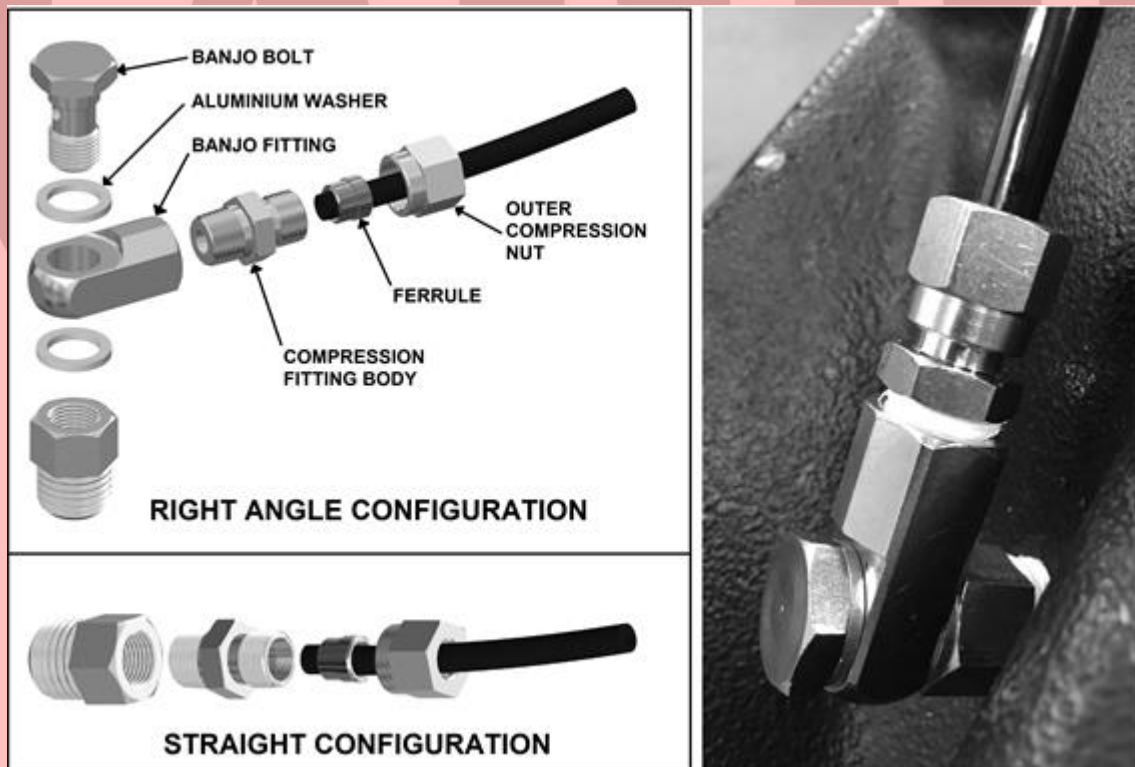

Figure 13. Air Locker bulkhead fitting assembly (170114)
- ☐ Insert the outer compression nut and ferrule over the air line. Ferrule should be oriented as per Figure 13.
NOTE: When right angle routing of the tube is not required, screw the compression fitting body straight into the bulkhead fitting body (Figure 13).